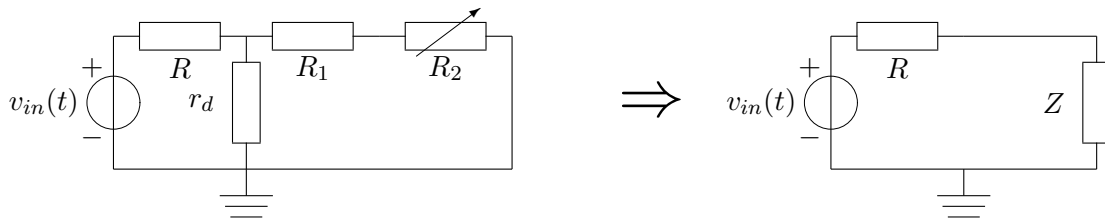

Figure 7: Left: Circuit for the small signal AC analysis near the operating point. Right: From the impedance measurement directly we obtain Z , not r_d .
2. Circuit for the small signal AC analysis near the operating point is shown in Fig. 7. In particular, the diode is characterized by the dynamic resistance. Note also that V_C can be replaced by a short circuit in AC analysis because, by definition, there is absolutely no AC voltage across a DC source. The $v_{in}(t)$ represents AC voltage source with small amplitude.
From the impedance measurement we obtain Z (resistive) which is the total parallel resistance of r_d and R_3 (see Figs. 7 & 8). Finally,